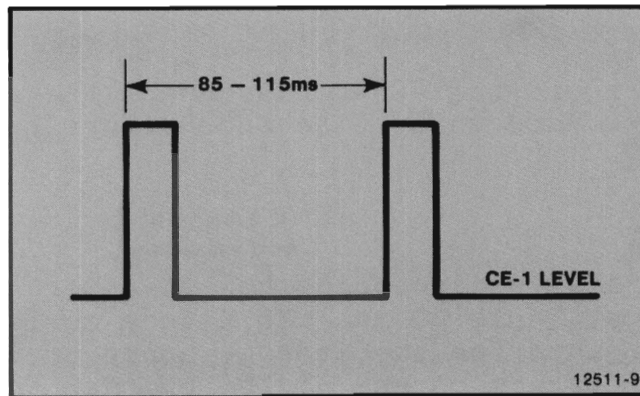

Figure 5-16. CE-1 Waveform.
23. Observe the waveform in Figure 5-16 and make sure that the time from the beginning of the first pulse to the beginning of the second pulse is 85 to 115ms.